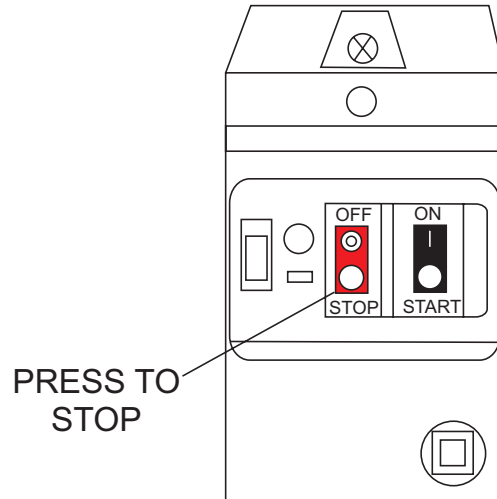

Figure 32. Electric Motor ON/OFF Switch (Stop)
- To stop the electric motor, press the red OFF/STOP switch (Figure 32).